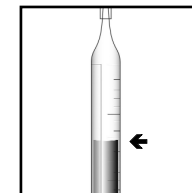

Figure 5
8. When the color of the liquid in the ampoule changes to **BLUE**, remove the ampoule from the Titrettor. Hold the ampoule in a vertical position and read the scale opposite the liquid level (fig. 5). Results are expressed in ppm (mg/Liter) QAC.